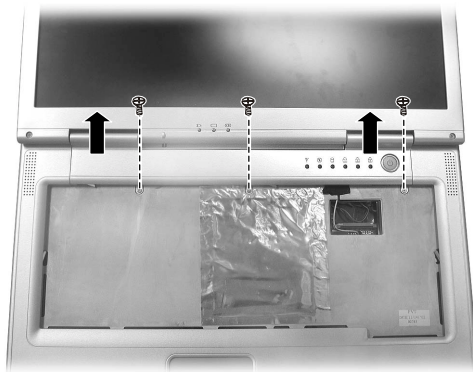

Figure 2-12 Remove the hinge cover
5. To remove the hinge cover, unscrew three screws. (Figure 2-12)